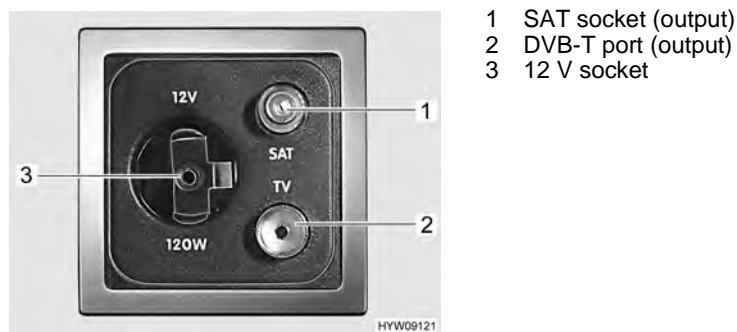

Fig. 50 Sockets (TV unit)
- Plug the suitable cable of the television into the SAT socket (Fig. 50,1).
- Plug the suitable cable of the television into the DVB-T port (Fig. 50,2).